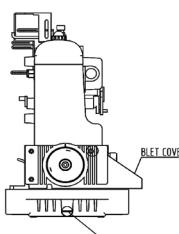
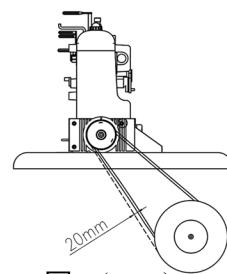

图3 (Fig.3)
图4 (Fig.4)
2、马达转向为顺时针方向，皮带的松紧度以手指向内压下20mm宜为，同时为安全起见，把皮带轮盖必须锁上。（图3&4）
2、Mount the machine head over the rest board Connect the machine hand wheel to the clutch motor with the V-belt.Adjust the tension of the V-belt so that it can be about 20 mm bent inward when you presse the center of V-belt and make sure the clutch motor turning direction is clockwise as shown Figure 3.Install the belt cover according to Figure 4.
(2) 润滑油的更换(图3)
2. Lubricant oil change :(Fig.3)